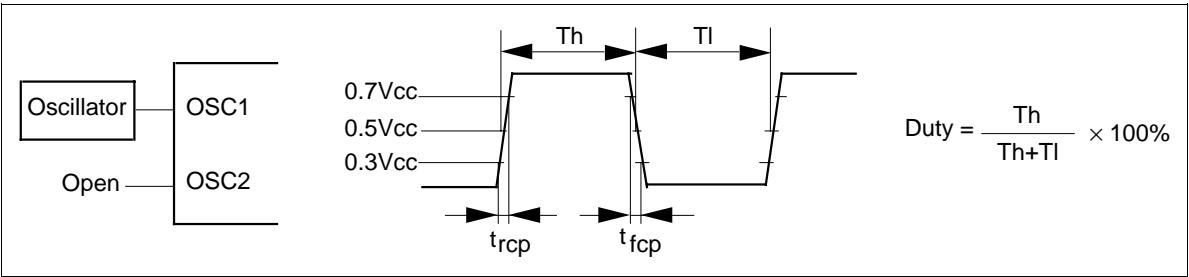

Figure 67 External Clock Supply
- 13. Applies to the external clock input (figure 67).